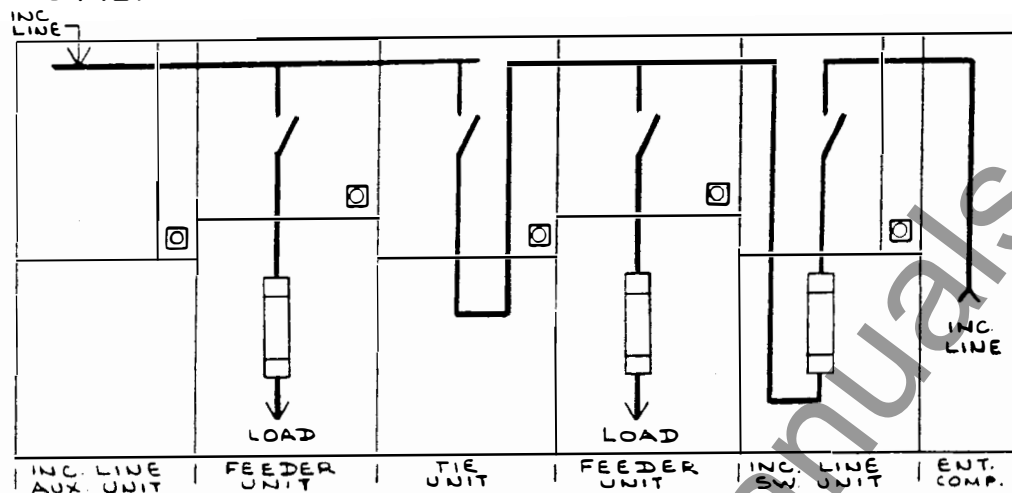

FIG. 1
Line-up equipments - (Fig. 1)
1. Line-Up Equipment - Fig. 1